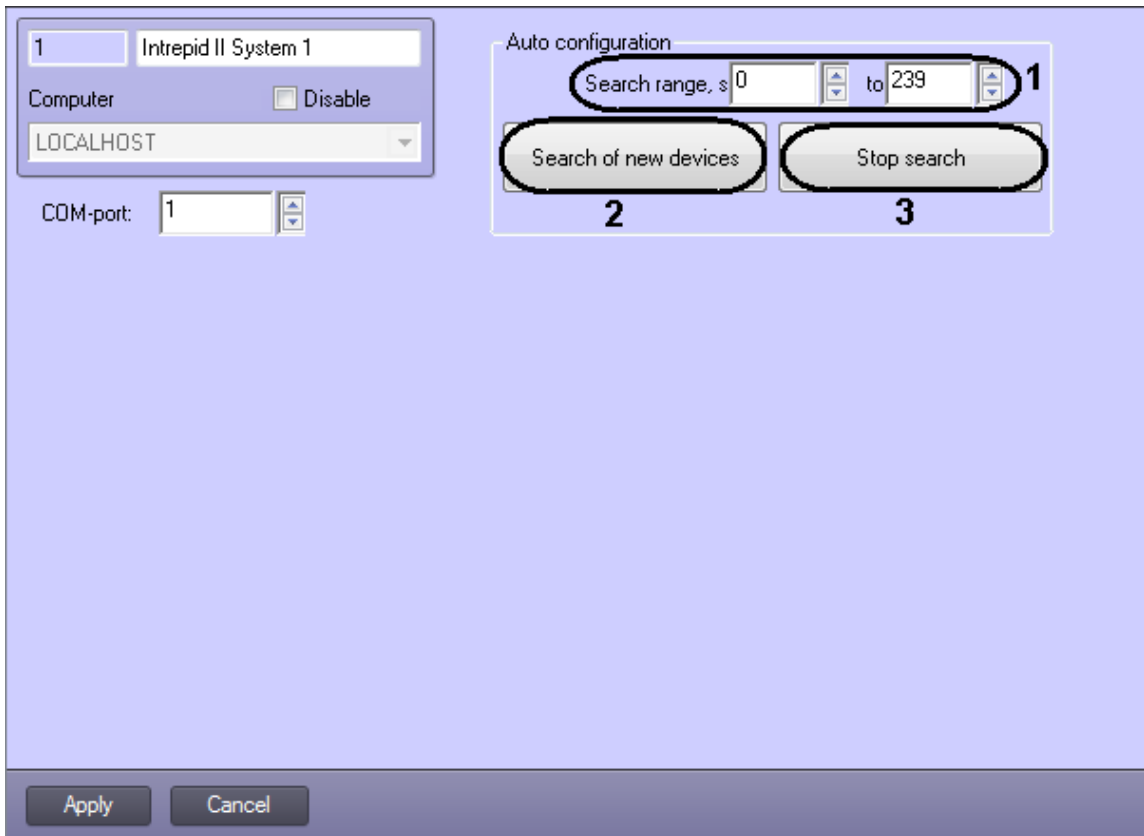

Fig. 3.3—1 Auto search of Intrepid II System devices
1. Go to the **Intrepid II System** object's settings panel (Fig. 3.3—1).
2. Enter the range of hardware addresses of connected devices in the **Search range, s** fields (Fig. 3.3—1, **1**).
3. Click the **Search of new devices** button (Fig. 3.3—1, **2**).
*Note.* To stop the search click the **Stop search** button (Fig. 3.3—1, **3**).